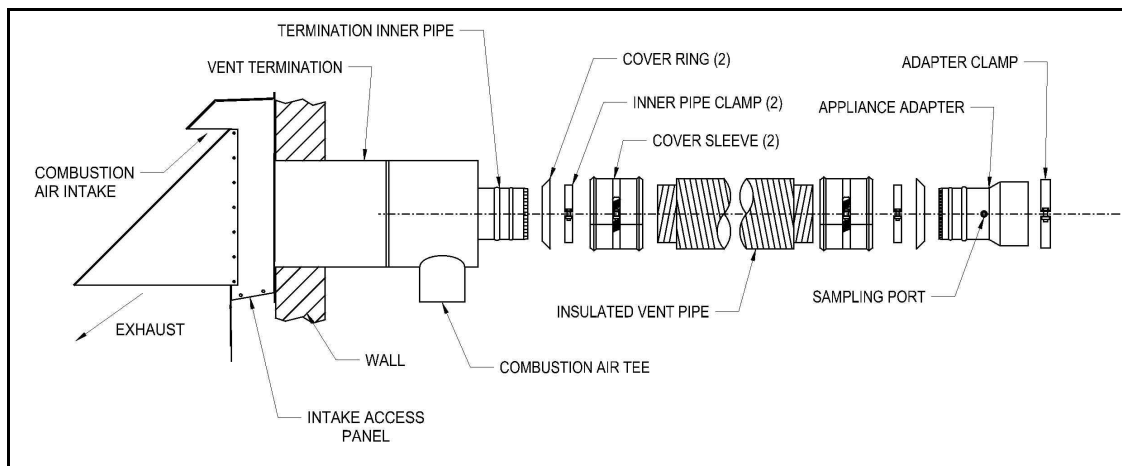

Figure 4
2. After completing assembly of the vent pipe to the termination inner pipe (Fig. 4), apply the supplied high temperature sealant to the cover pan around the inner pipe, around the joint between the collar and the Tee assembly, and seal or tape the joint from the FDVS Termination to the Tee assembly.